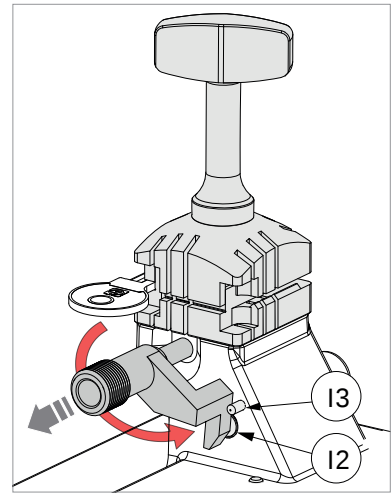

Fig. 33
**NOTE: take the gauge back by hand to its original position before starting to read or cut the key (Fig. 33).**
For all reading/decoding and cutting operations the gauge (I) must be taken back manually to its original position (Fig. 33 - in this position it covers the sensor (I2) which detects it).